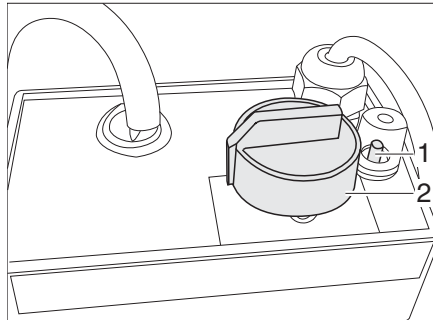

Fig. 253 Regulator for electrical floor warming/bed warming unit
- Turn the control knob (Fig. 253,2) to the desired heating level.
- Turn the control knob (Fig. 253,2) to the setting "0".
If the regulator is overloaded, the overload protection is actuated. The pin (Fig. 253,1) will trip.
- Press in the pin (Fig. 253,1) at the overload protection when the regulator has cooled down.